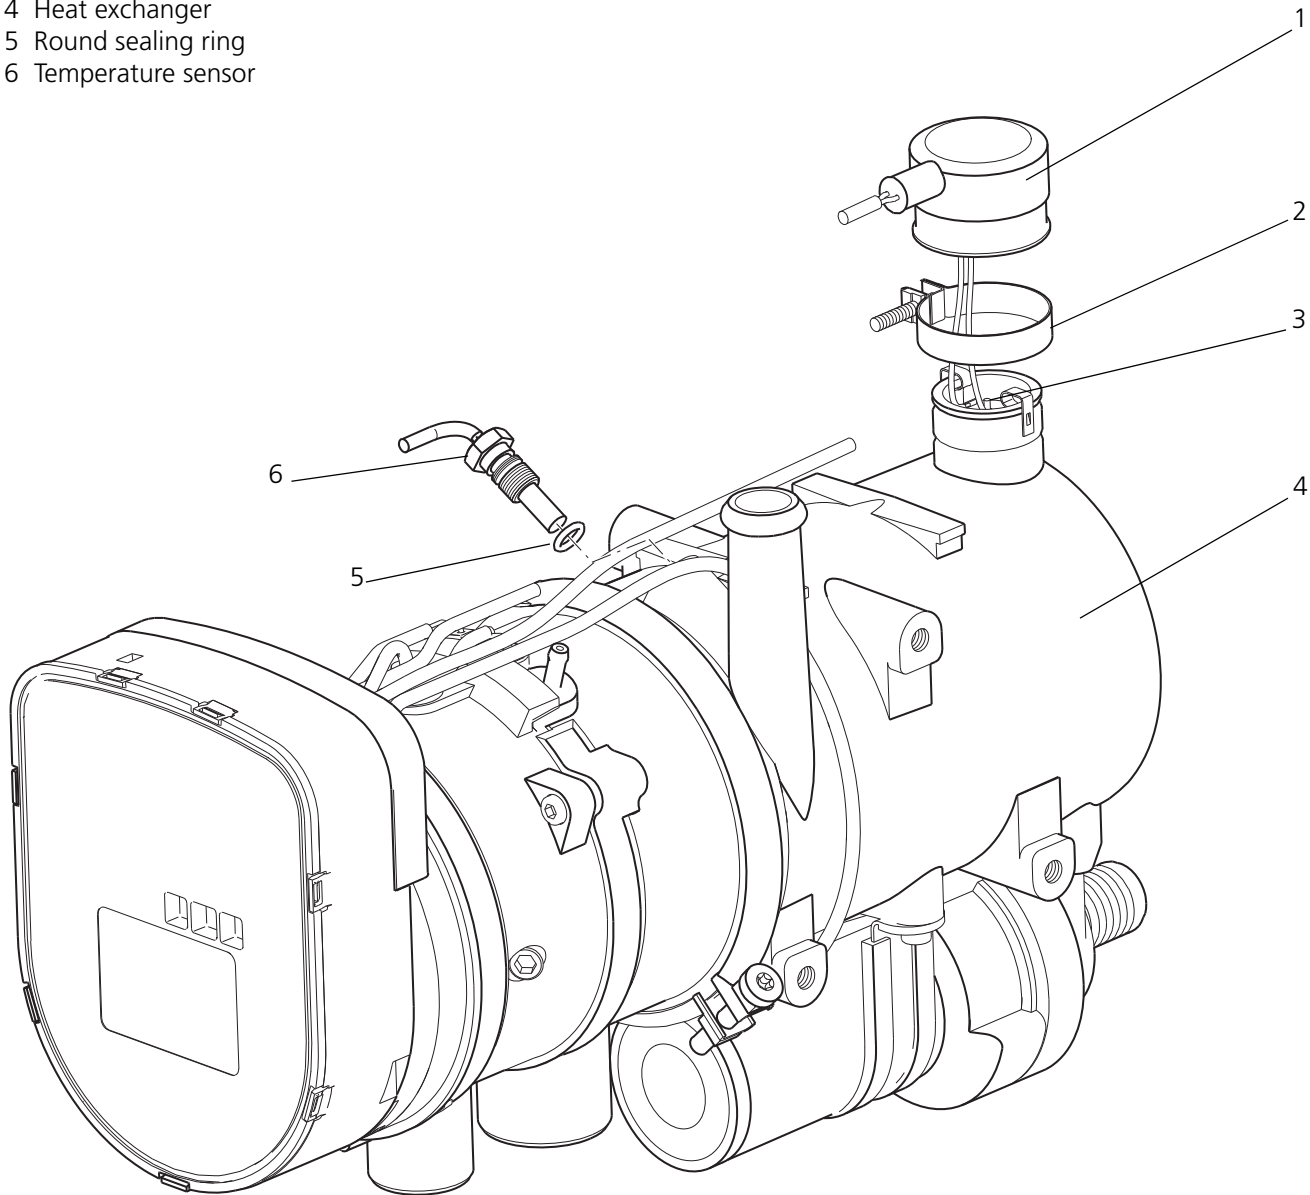

Figure 26: Replacing the temperature limiter and temperature sensor
2. Remove the clip (2, Fig. 26) and pull off the protective cap (1).
3. Use a screwdriver to lever off the retaining spring and remove the temperature limiter (3).
1. Insert the new temperature limiter (3, Fig. 26) into the heat exchanger (4) and press in the retaining spring.
2. Unscrew and remove the temperature sensor (6, Fig. 26) and remove it together with the round sealing ring (5).
1. Apply acid-free grease (Vaseline) to the round sealing ring (5, Fig. 26).
2. Fit the temperature sensor (6) with the round sealing ring (5) and screw it into the heat exchanger (4). Tighten to 1.5 Nm (13.3 lb-in) $\pm 10\%$.